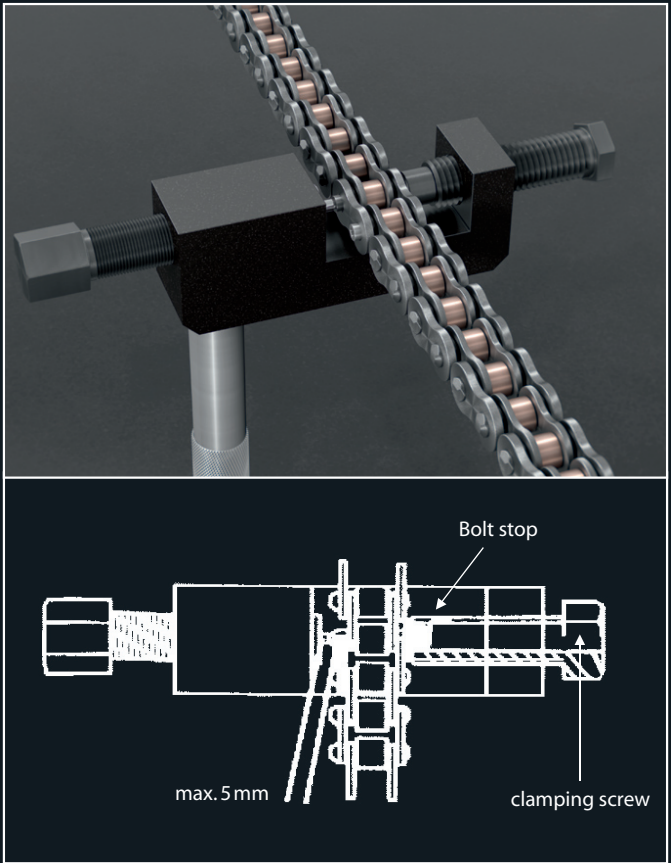

Fig. 6
- Ensure that the arbor is centred in the hollow bolts of the chain lock (Fig. 6).